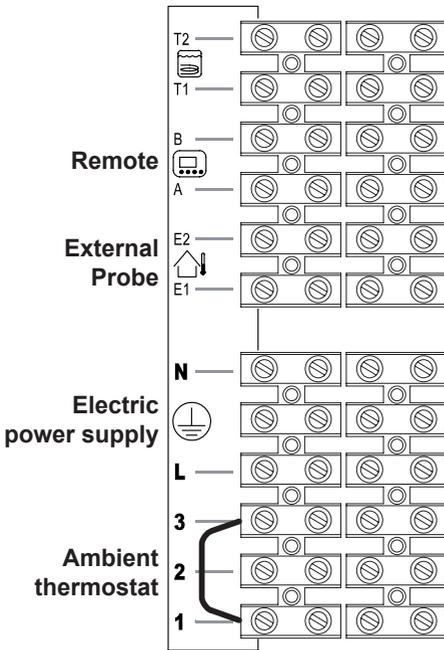
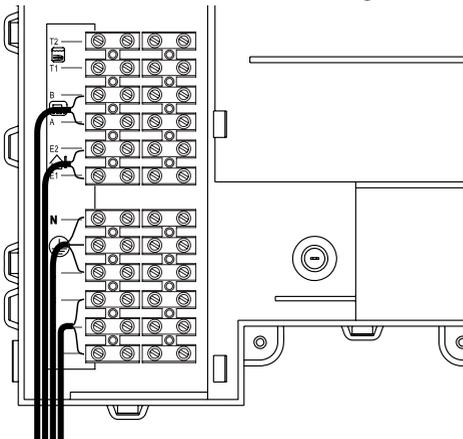
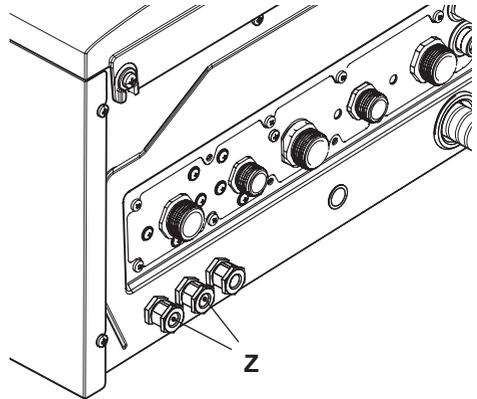

Fig. 6.17
Fig. 6.18
Fig. 6.19
- Connect the electric power supply cable coming from the fused spur isolation switch to the power supply terminal block of the boiler Fig. 6.17 keeping the same connections for the live (brown wire) and the neutral (blue wire). External 3A fuse or fused plug with same current rating is recommended.
The route of the boiler and ambient thermostat's electric power supply cable or wires must follow the route indicated in Fig. 6.18.
Allow the cables to exit the boiler by using the relevant cable clamps Z (Fig. 6.19).
Use the clamps indicated in Fig. 6.17 to connect the ambient thermostat.
Use the ambient thermostat's clamps indicated in Fig. 6.17 and Fig. 6.18, to connect the zone valve. Insert the electric cables of the zone valve's micro switch contacts in clamps "1 and 3" of the ambient thermostat's terminal block as in Fig. 6.18.
The route of the boiler and ambient thermostat's electric power supply cable or wires must follow the route indicated in Fig. 6.18. Allow the cables to exit the boiler by using the relevant cable clamps Z (Fig. 6.19).
The route of the external probe's connection wires must follow the route indicated in Fig. 6.18.
The route of the remote control cable must follow the route indicated in Fig. 6.18.
relevant cable clamps Z (Fig. 6.19).